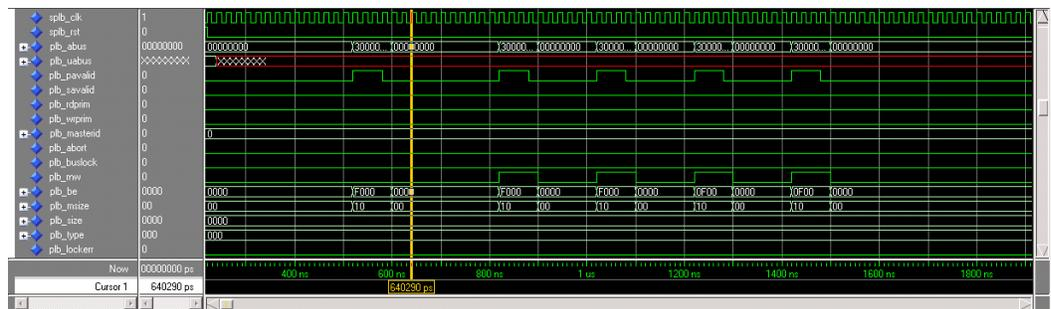

Figure 5-6: BFM Waveform Simulation Results for `sample.bfl` @ `t=640 ns`
- c. Invokes the simulator with the BFC output command files (INCLUDE or DO files) depending on the simulator to execute the commands in the `sample.bfl` file. The simulator waveform result will be similar that shown in Figure 5-6.